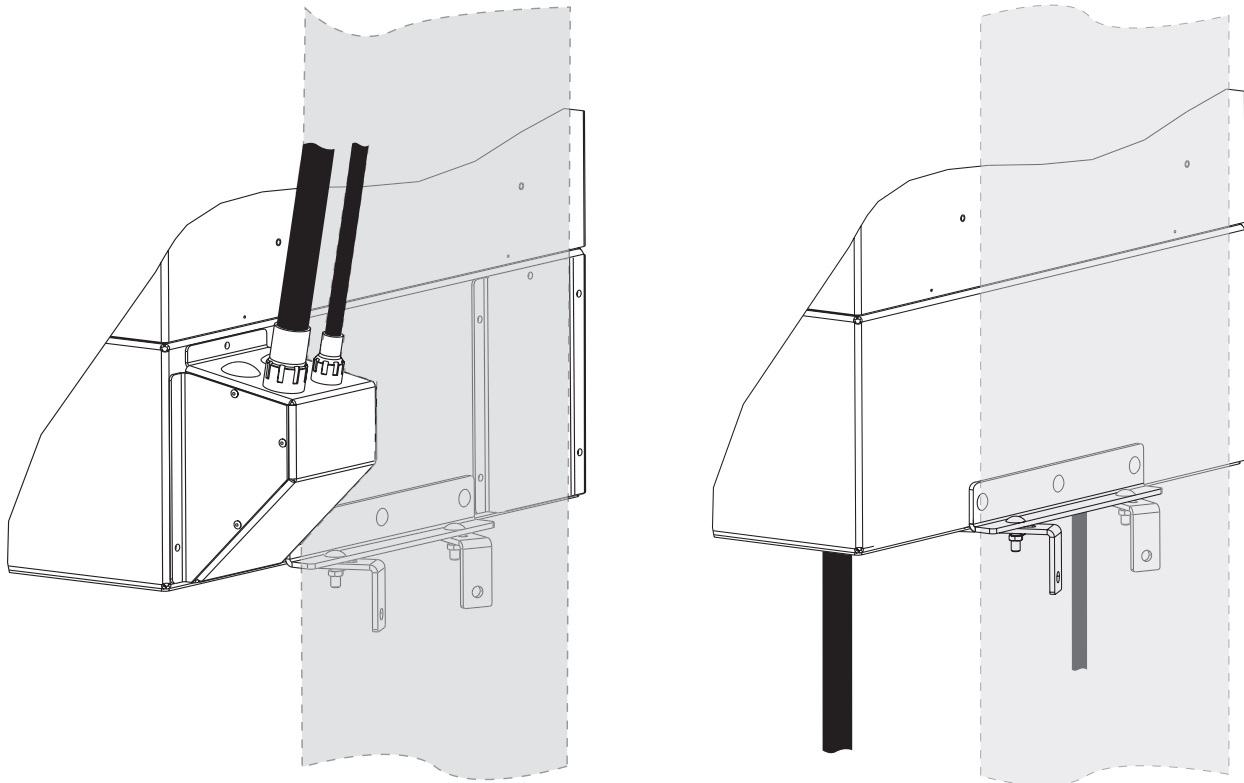

Figure 10 — Route Cable from Pole-mounted Cabinet
- Step 5** Route cable as prescribed in your installation plan in preparation for splicing. The cable may route out the back of the cabinet and transition up the pole for aerial applications or may route from the bottom of the cabinet for buried applications (Figure 10).